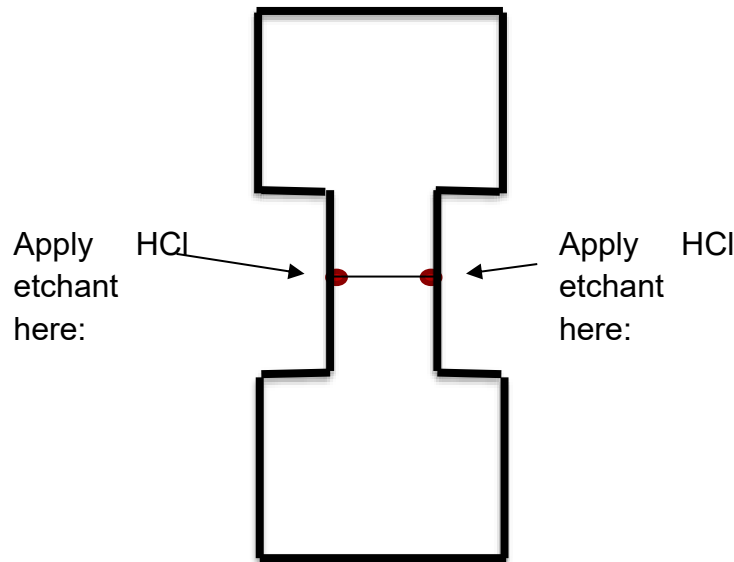

Figure 7: Etchant Spots
- 9) Using the tapered cotton swab, carefully apply HCl onto two small spots along the ends of a sample's scribe line as depicted in Figure 7. Each spot should be ~0.2mm in diameter.